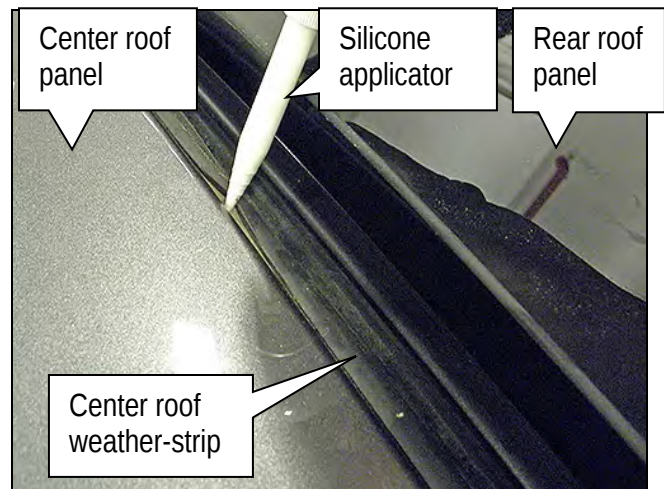

Figure 8
- Apply sealant as shown in Figure 8.